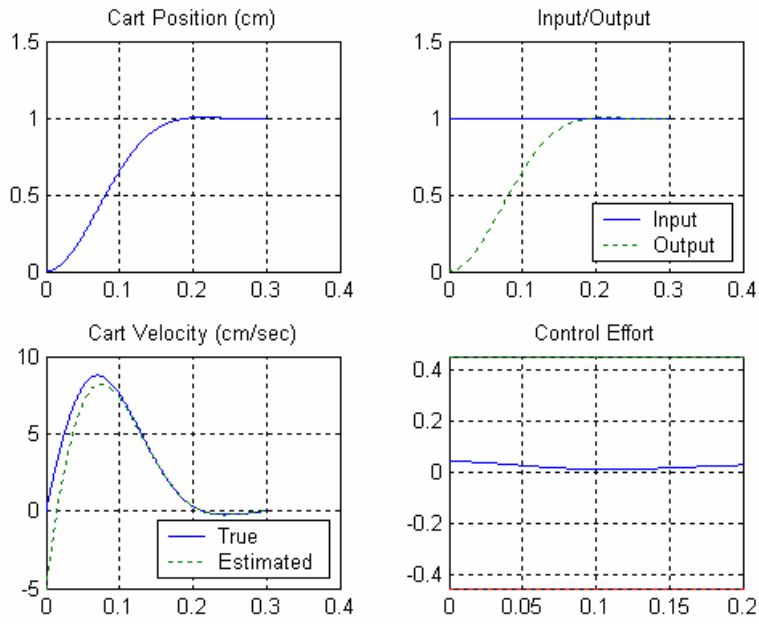

Figure 3. Results for 1f.
f) Implement (Simulink/Matlab) a minimum order state observer with state variable feedback configuration that forces the system to be a type one system for the one degree of freedom system with the state model on the web. Assume the position of the cart is known, but not the velocity. Utilize an lqr controller, the last Q penalty value is a penalty on the new (augmented) state. Use the command $k = \text{lqr}([0.1 \ 0 \ 100], 10)$. Set the observer pole equal to -30. Assume the system is at rest and we assume the initial velocity of the cart is -5 cm/sec. You should get results similar to those displayed in Figure 3. Turn in your plot and Matlab/Simulink code.